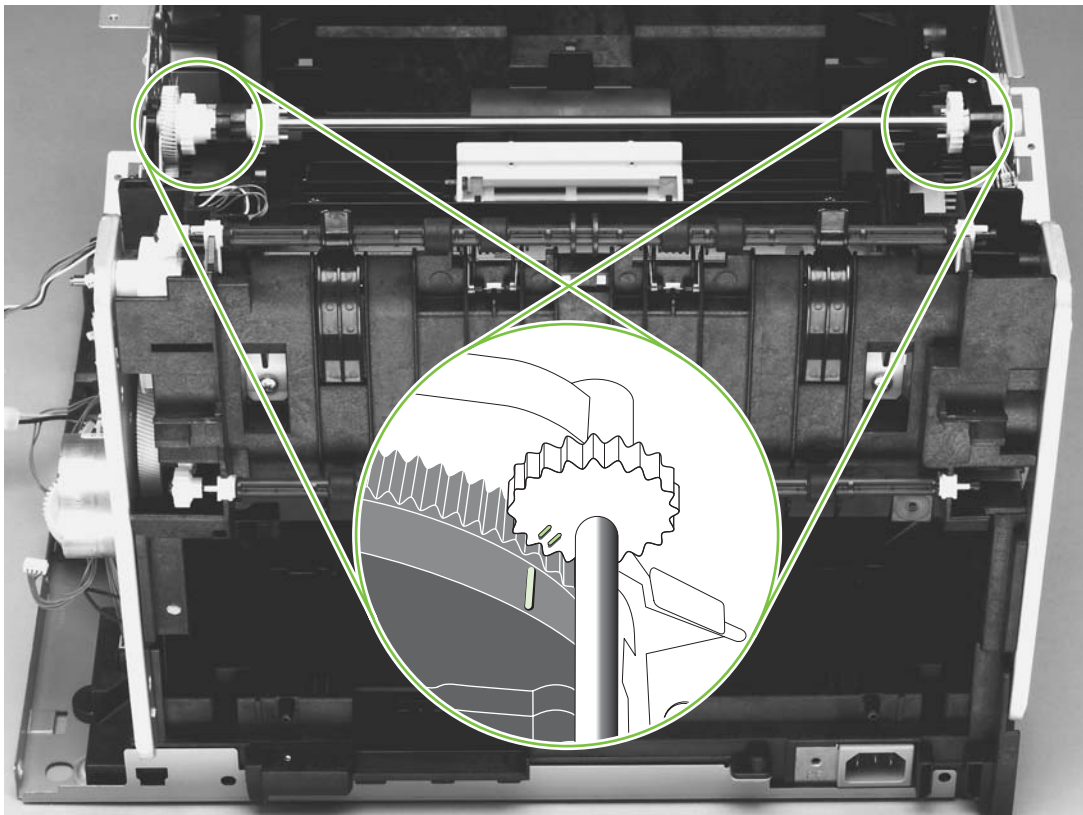

Figure 5-83 Reinstall the print-cartridge carousel
- 2 Examine the gears: two marks on the smaller gear should line up with the single mark on the larger gear (see the detail of the gears in Figure 5-83 Reinstall the print-cartridge carousel).